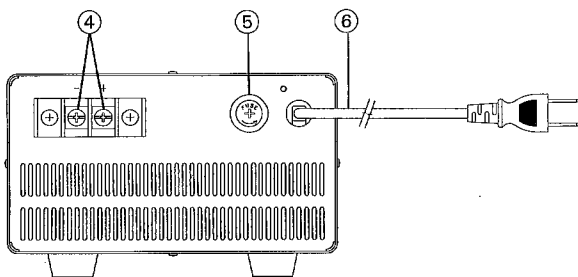

Fig. 4-2. Rear Panel
Fuse Holder is located on rear panel for U.S.A. version as Fig. 4-2. ⑤.